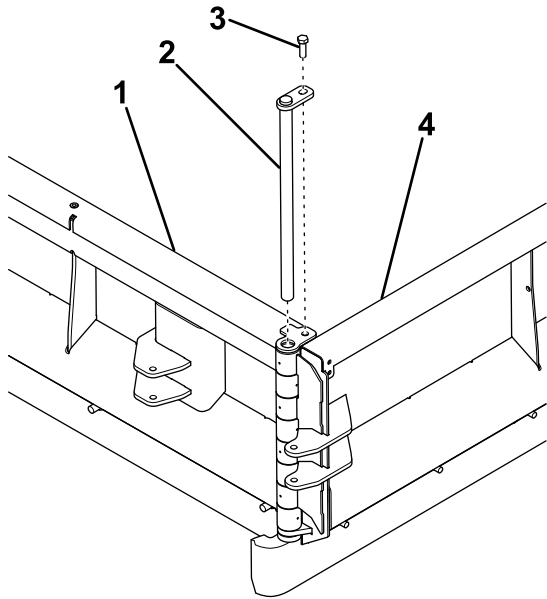

Figure 4
1. Interlock the center blade and blade wing hinges, ensuring the cutting edges are even (Figure 4).
2. Lock the hinges together by inserting the hinge pin down the center (Figure 4).
3. Secure the hinge pin to the center blade with a bolt (1/2 x 1-1/2 inches) and locknut (Figure 4).